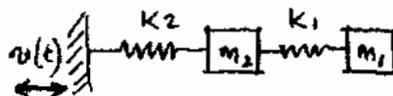

Fig. 1
8. Write the equation of motion of the two degree of freedom system shown in fig. 1 subjected to a support motion.